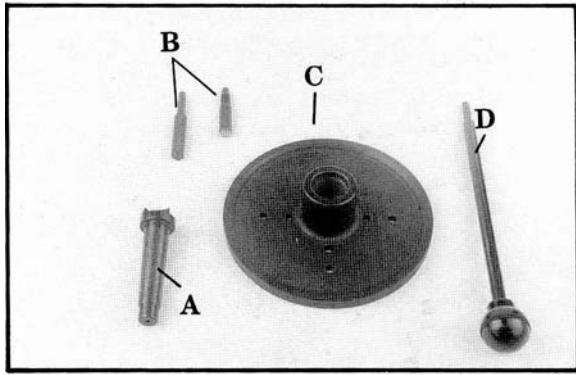

Figure 6
**Spur Center** (A, Figure 6) – Locks into headstock and holds the workpiece during spindle turning.
**Index and Locking Pins** (B, Figure 6) – The threaded pin is used for quick fluting and veining of spindles. The unthreaded pin holds the spindle stationary for installing and removing spur center and face plate.
**Face plate** (C, Figure 6) – Attaches to headstock and is used in face plate turning operations.
**Drift Rod** (D, Figure 6) – Fits through the tailstock and headstock to remove the centers.